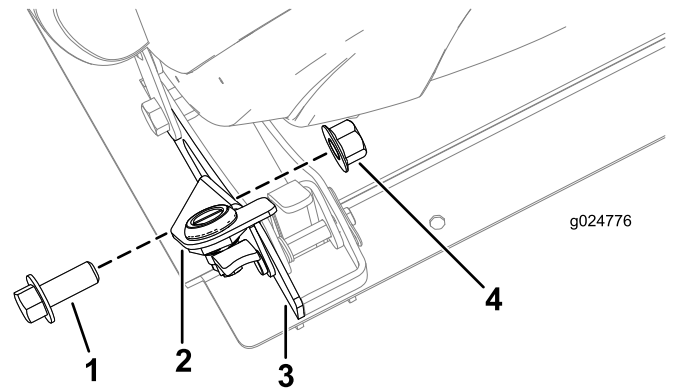

Figure 25
- 9. Secure the lock bracket to the outboard-seat gusset with the hex-head screw (12 x 20 mm) and the locknut (12 mm) as shown in Figure 25.